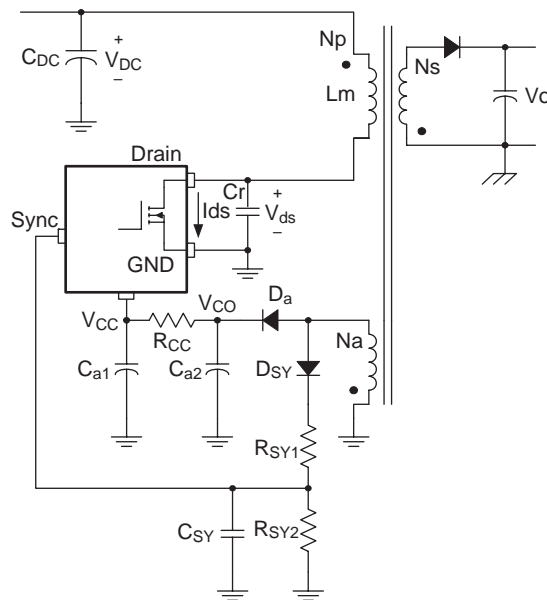
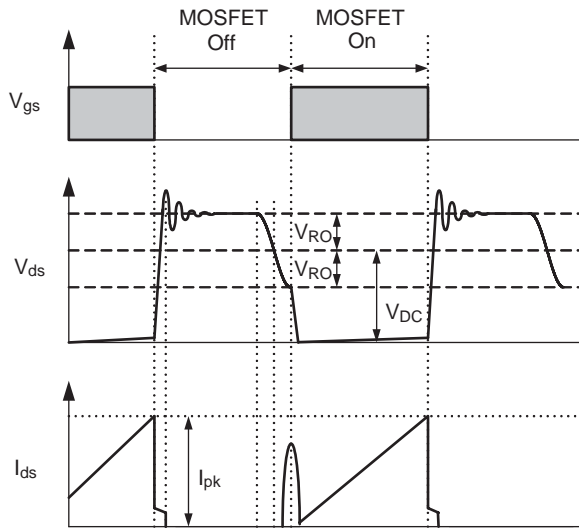
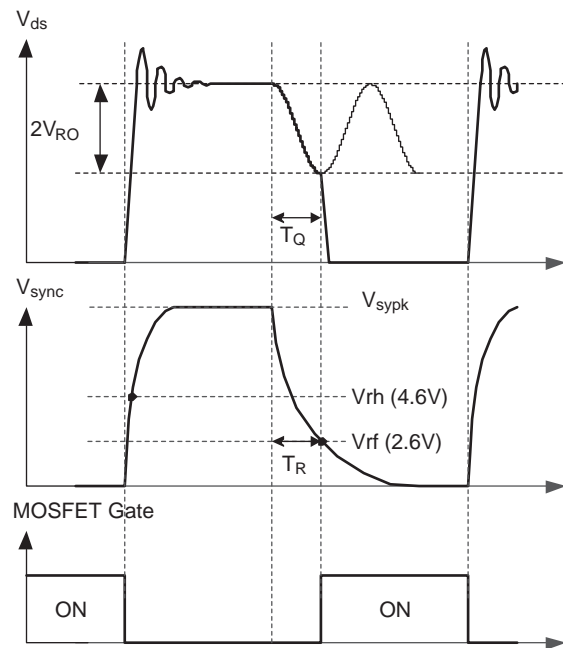

Figure 6. Synchronization Circuit
Figure 7. Quasi-Resonant Operation Waveforms
Figure 8. Normal Quasi-Resonant Operation Waveforms
2. Synchronization: The FSCQ-Series employs a quasi-resonant switching technique to minimize the switching noise and loss. In this technique, a capacitor (C_r) is added between the MOSFET drain and the source as shown in Figure 6. The basic waveforms of the quasi-resonant converter are shown in Figure 7. The external capacitor lowers the rising slope of the drain voltage to reduce the EMI caused when the MOSFET turns off. To minimize the MOSFET's switching loss, the MOSFET should be turned on when the drain voltage reaches its minimum value as shown in Figure 7.
The minimum drain voltage is indirectly detected by monitoring the Vcc winding voltage as shown in Figure 6 and 8. Choose voltage dividers, R_{SY1} and R_{SY2} , so that the peak voltage of the sync signal (V_{sypk}) is lower than the OVP voltage (12V) to avoid triggering OVP in normal operation. It is typical to set V_{sypk} to be lower than OVP voltage by 3–4V. To detect the optimum time to turn on MOSFET, the sync capacitor (C_{SY}) should be determined so that T_R is the same with T_Q as shown in Figure 8. The T_R and T_Q are given as, respectively: